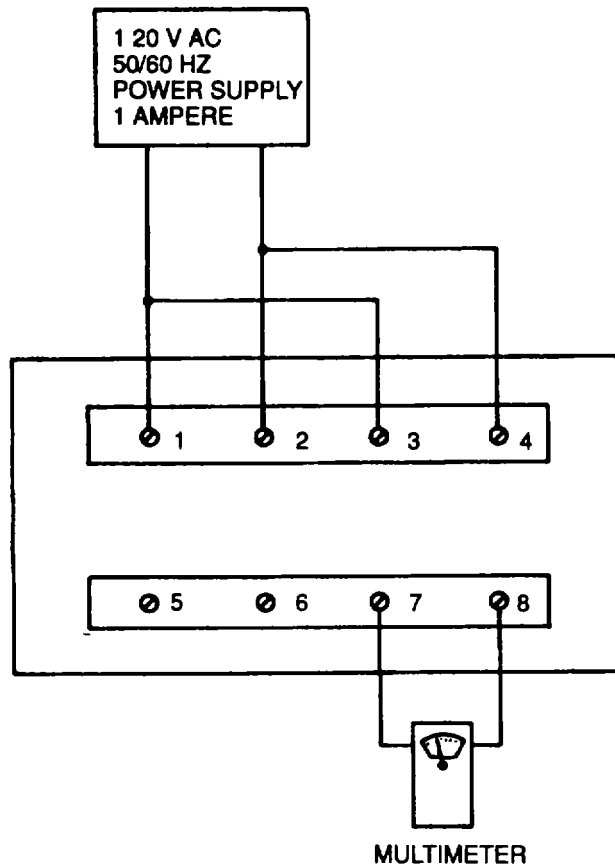

Figure 5-34. Test Setup, Synchro Check Relay K116
- (1) Connect synchro check relay K116 to 120 V ac, 50/60 Hz power source and multimeter set to RX1 scale as shown in Figure 5-34. Apply 120 V ac, 50 Hz, A phase, to terminals 1 and 2 of relay K 116.
- (2) Apply 120 V ac, B phase, to terminals 3 and 4.
- (3) The multimeter should indicate infinite ohms (contacts open). Voltages are not synchronized.
- (4) Repeat steps (1) and (2), above, with 120 V ac. 60 Hz, C phase, applied to terminals 3 and 4.
- (5) The multimeter should indicate infinite ohms (contacts open). Voltages are not synchronized.
- (6) Connect synchro check relay K116 to 120 V ac 50/60 Hz power source and multimeter set to RX1 scale as shown in Figure 5-34.
- (7) Apply parallel 120 V ac, A phase, to terminals 1 and 2, and terminals 3 and 4 of relay K 116.
- (8) The multimeter should indicate zero ohms (contact closure).